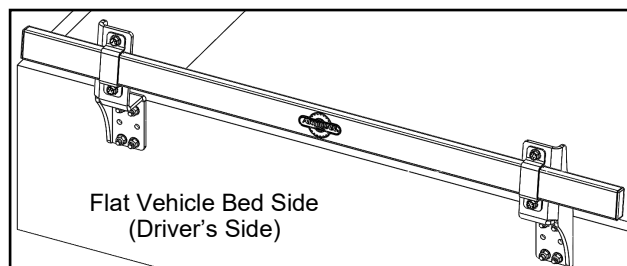

Fig. 3
3. Figure 3 shows a toolbar installed on a vehicle with flat metal bed sides, facing outwards.